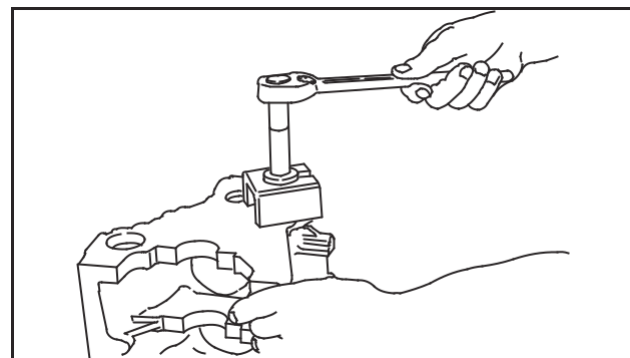

**Fig. 5 – Checking Cam Bearing**
6. Check camshaft bearing, Fig. 5.